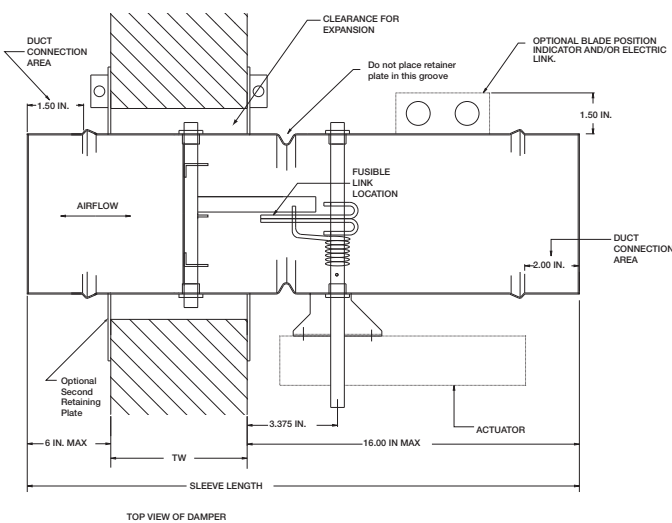

Figure 3: FSDR/SEFSDR/SSFSDR
- Position the retaining plate between the blade axle and the actuator shaft as shown in **Figure 3 & 4**. Do not place the retaining plate in the groove. **IMPORTANT:** The clamping mechanism should face away from the wall/floor.